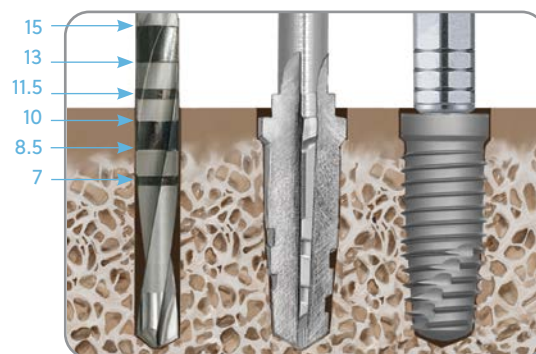

Fig. 3 Under Prepared Subcrestal Placement Of 11.5 mm Implant
**Under Preparing** the osteotomy depth and then placing the implant more apical relative to the prepared depth may result in the implant stopping short of the desired placement level. [Fig 3].